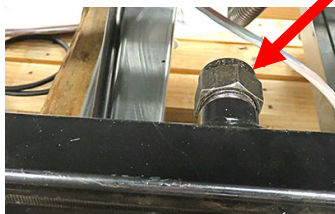

Figure 1
4. Remove plug on left unused connection of the rear manifold as viewed from the rear of the fryer (see Figure 1).